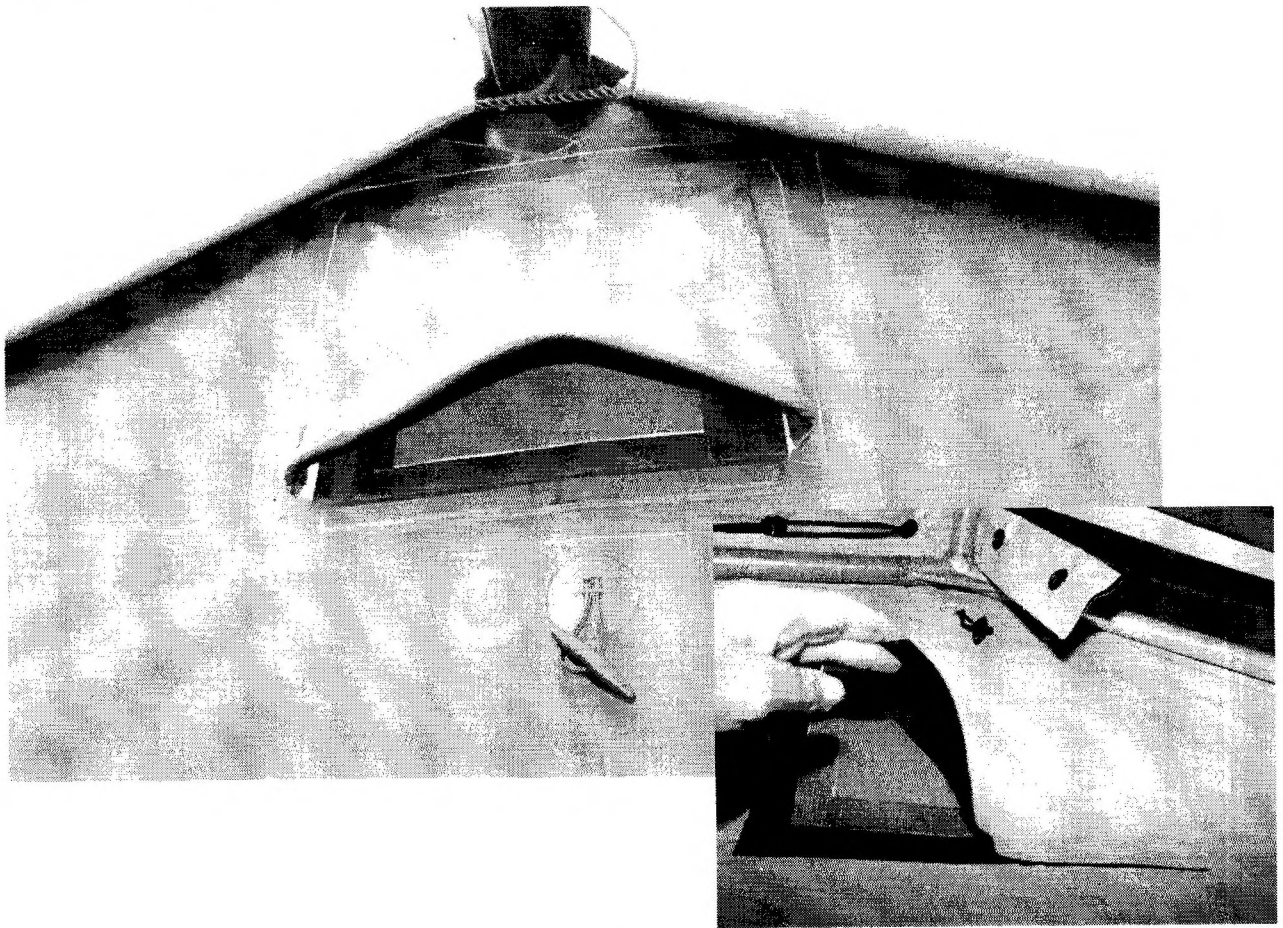

Figure 56: Gable Vents
56. Operation of the vents is simple, see Fig 56.